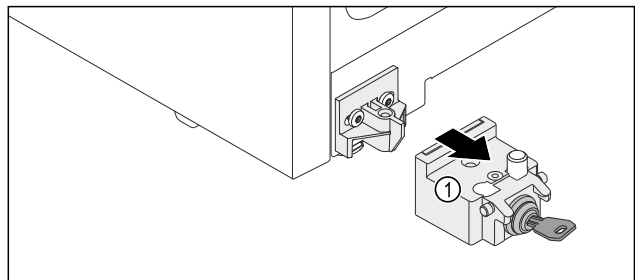

Fig. 11
- ▶ Remove the locking device Fig. 11 (1) forwards.